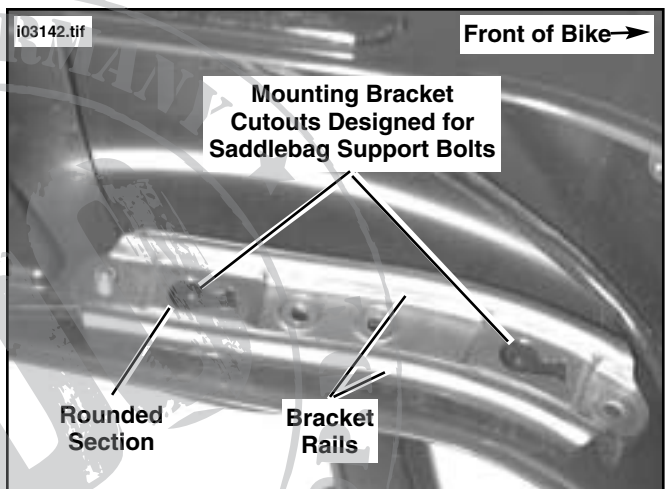

Figure 18. Bracket installed under Fender (Left Side Shown from Inside Fender)
Figure 18 and lower portion of Figure 19 are provided for illustration purposes only. It is not necessary to remove fender for the following procedures.
- See Figure 18. Visually locate rounded sections of mounting bracket cutouts (on bracket mounted under fender) which will capture the rounded head of the support bolts when attaching saddlebag supports.
- See Figure 18 and 19. Slide support (right side shown in upper portion of Figure, left side shown from underneath in lower portion of Figure.) up under fender as shown. While aligning rails on support with rails on mounting bracket, engage rounded head of mounting bolt with rounded portion of bracket cutouts (See lower portion of Figure 19). The following techniques may prove useful in performing this Step: